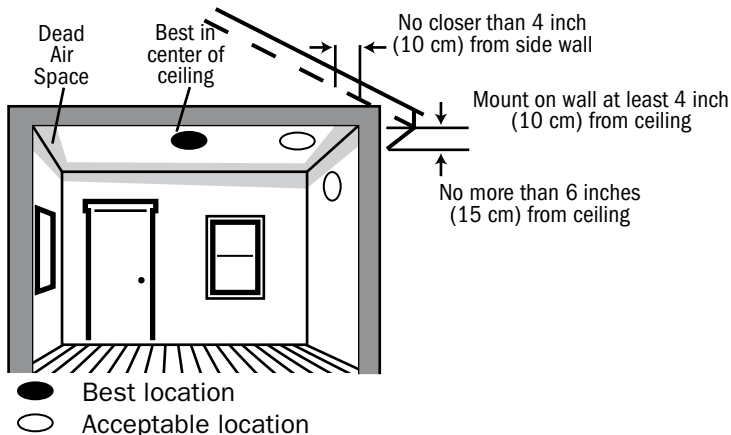

Figure 4: recommended smoke detector mounting locations.
- Put detectors as close to the center of the ceiling as possible. If this is not practical, put the detector on the ceiling, but no closer than 4 inches (10 cm) from any wall or corner. See figure 4.
- If wall mounting is permitted by your local and state codes. Put the top of wall-mounted detectors between 4 and 6 inches (10 and 15 cm) from the ceiling. see figure 4.
- In dead air spaces at the top of a peaked roof or in the corners between ceilings and walls. Dead air may prevent smoke from reaching the detector. See figures 4 and 5 for recommended mounting location.